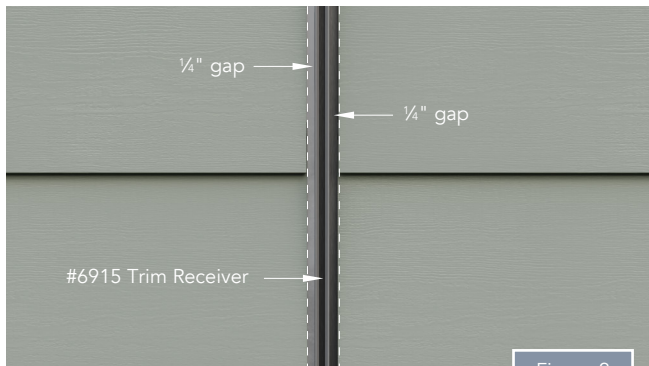

Figure 2
- Install siding panels per installation guide. Always plan  $\frac{1}{4}$ " gap between the end of the siding panel and termination points (Figure 2).